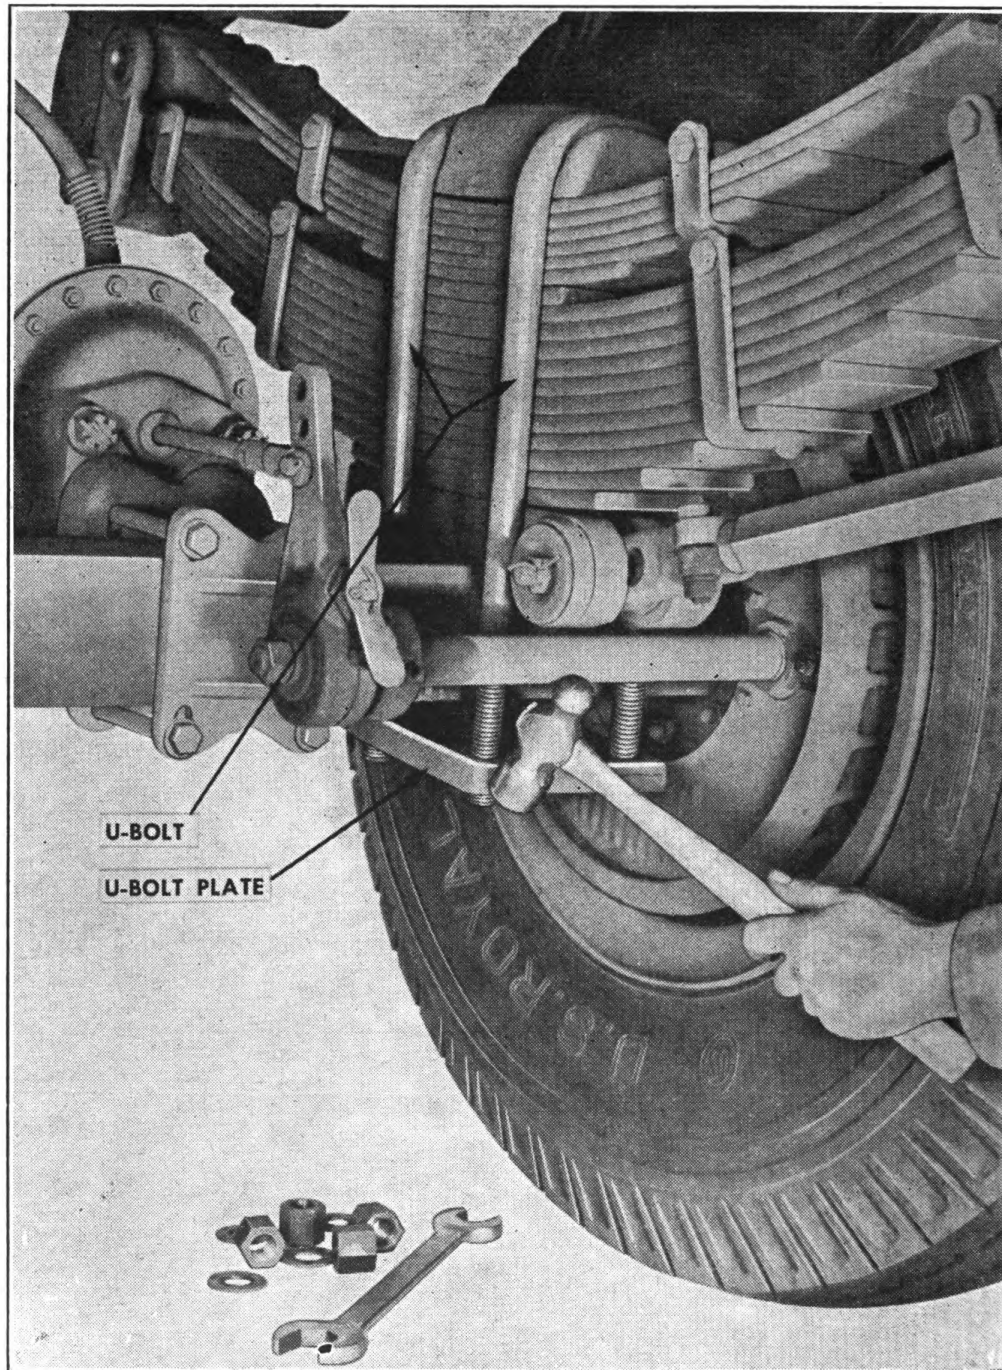

FIGURE 72. SPRING REMOVAL—DOLLY, STEP 1.
c. Remove U-bolt nuts and drive down on U-bolt plate (Fig. 72).